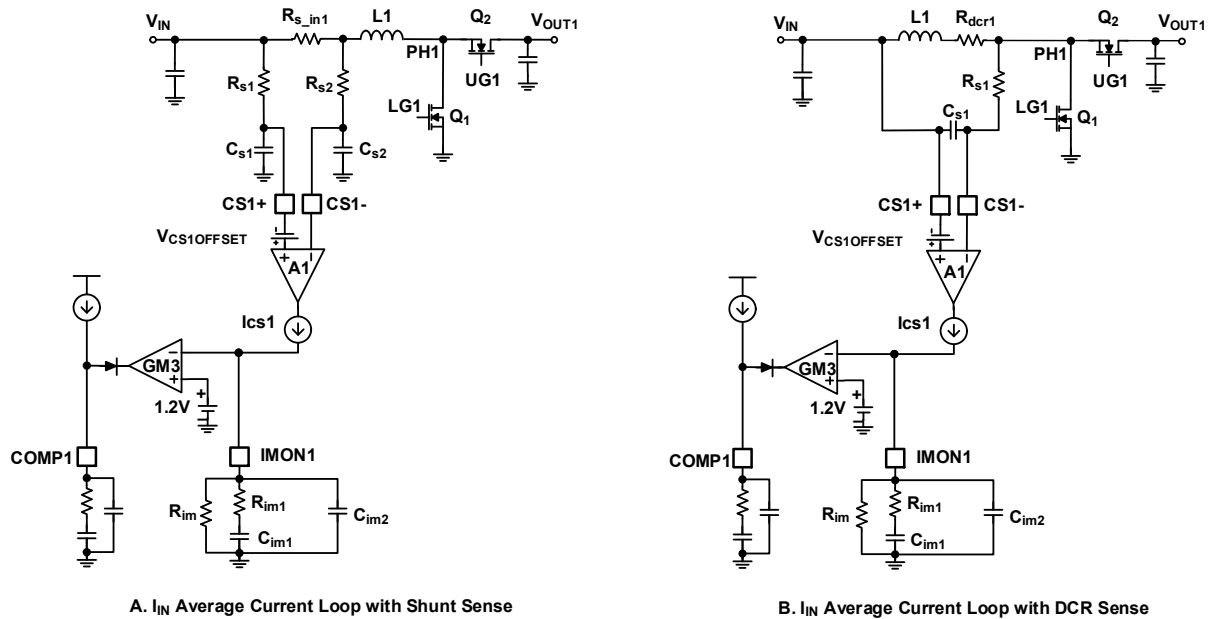

Figure 40. Input Average Current Monitoring and Regulation Loops
The ISL81805 has two current-sense amplifiers (A1 and A2) that monitor the input current of both channels. Figure 40 (A) shows the ISL81805 Channel 1 current shunt sense and monitor circuit which is identical to Channel 2. The voltage signal on the current sense resistor R_{S_IN1} is sent to the differential input of CS1+/CS1-, after the RC filters R_{S1}/C_{S1} and R_{S2}/C_{S2} . Renesas recommends using a 1 Ω value for R_{S1} and R_{S2} , and a 10nF value for C_{S1} and C_{S2} to effectively dampen the switching noise without significantly delaying the current signal or introducing too much error by the op-amp bias current. The A1 amplifier converts the current-sense voltage signal to the current signal I_{CS1} .
Figure 40 (B) shows the ISL81805 Channel 1 inductor DCR current sense and monitor circuit. R_{dcr1} plays the same role as R_{S_IN1} in the shunt current sense circuit. Renesas recommends keeping $R_{S1} \times C_{S1} = L1/R_{dcr1}$. To minimize the error caused by the A1 input bias current, Renesas recommends keeping R_{S1} less than 10k.
When DE mode is set, Channel 1 and 2 boost sync FET driven by UG1 and UG2 are all running in DE mode. The inductor current is not allowed to reverse (discontinuous operation) depending on the zero-cross detection reference level V_{CROSS1} for Channel 1 and V_{CROSS2} for Channel 2 sync FET. At light load conditions, the converter goes into diode emulation. When the load current is less than the level set by $V_{IMON1BSTEN}$ or $V_{IMON2BSTEN}$ typical 0.835V on the IMON1 or IMON2 pin, Channel 1 or 2 enters Burst mode. Equation 9 sets the Burst mode operation enter condition for Channel 1 as an example (see Figure 40). The same equation also applies to Channel 2.
As shown in Figure 40 in Input Average Current Monitoring and Regulation Loops, the inductor peak current is sensed by the shunt resistor R_{S_IN} and amplifier A1. When the voltage drop on R_{S_IN} reaches the set point $V_{OCSET-CS}$ typical 82mV, Q_1 is turned off. The first-level peak current limit setpoint (I_{OCP1}) is calculated using Equation 12.
In cases of OVP protection, the inductor current becomes too negative. The negative current is sensed by the shunt resistor R_{S_IN} and amplifier A1 as shown in Figure 40. When the voltage drop on R_{S_IN} reaches the set point $V_{OCSET-CS-N}$ (typical -60mV), Q_2 is turned off and Q_1 is turned on. The negative peak current limit set point I_{OCPPN} is calculated using Equation 14.